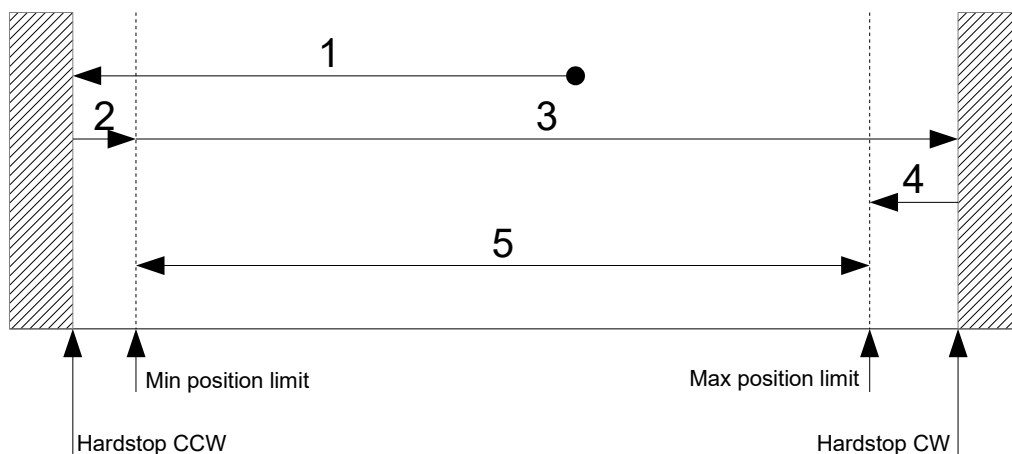

Figure 8: Double ended homing CCW
For this homing method, the motor is driving with a constant negative velocity (6099_h:2) counterclockwise into a hard stop (1) as shown in figure 8. While driving into the hardstop the actual motor current is measured and compared with the negative current threshold (2025_h:4). If the negative current threshold is reached, the motor moves back by +PositionOffset_CCW (2025_h:3) encoder steps (2). There the actual position (6064_h) and the min position limit (607D_h:1) are set to 0 and the motor drives on into the positive direction with a constant positive velocity (3). If the positive current threshold is reached, the motor moves back by -PositionOffset_CW (2025_h:2) encoder steps (4). Then the motor is stopped and the max position limit (607D_h:2) is set to the actual position value (6064_h). The velocity is limited to (6099_h:1).